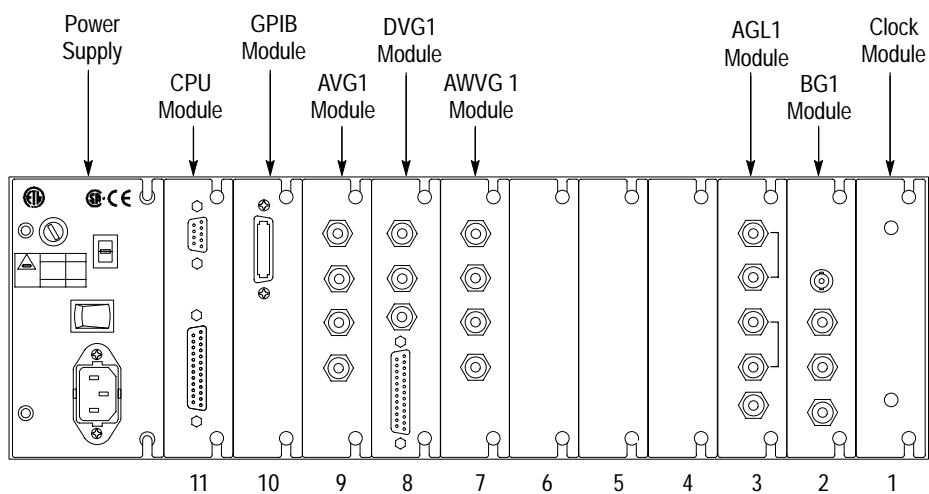

Figure C-1: Rear panel slot numbering
2. Select the slot you will use to install the module. Table C-1 lists the slot restrictions. Figure C-1 shows a sample configuration with slot numbers. If you need to remove a module to make space for your new module, follow the *Module Removal* procedure on page C-10.